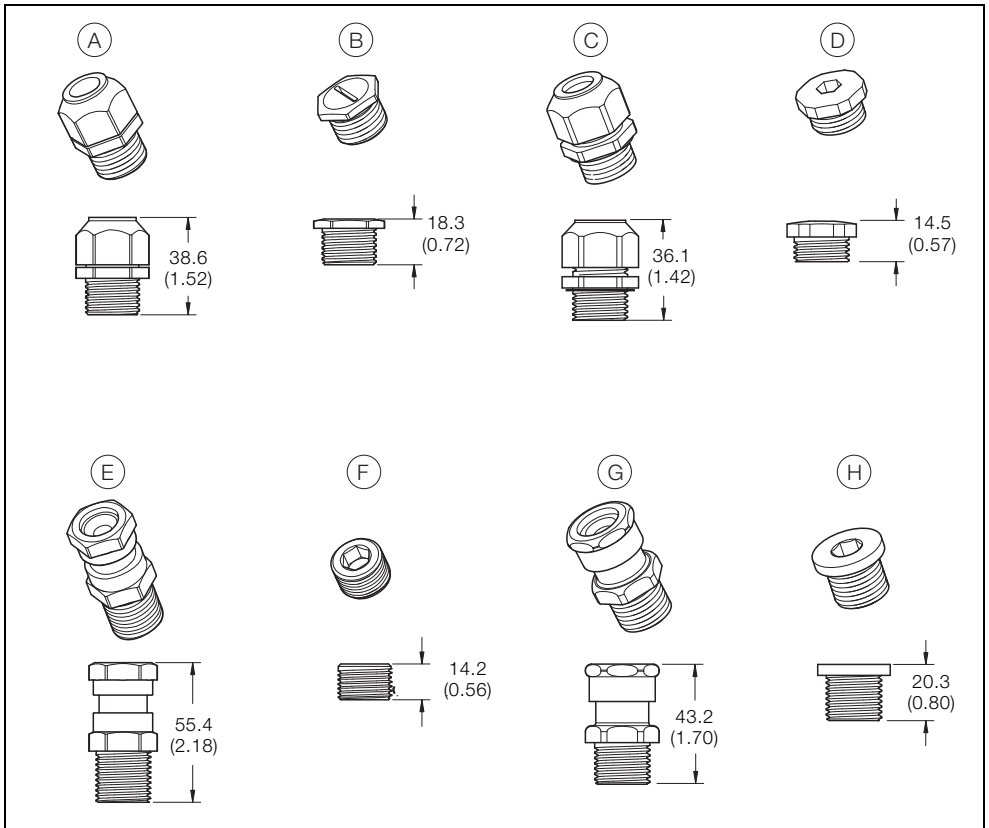

Fig. 4.1 Cable Glands and Plugs
2. Route the sensor wiring through one of the three threaded connections and use an appropriate gland in the transmitter housing (refer to Fig. 4.1, page 27 for cable gland options). Note, use of the cable gland is required.